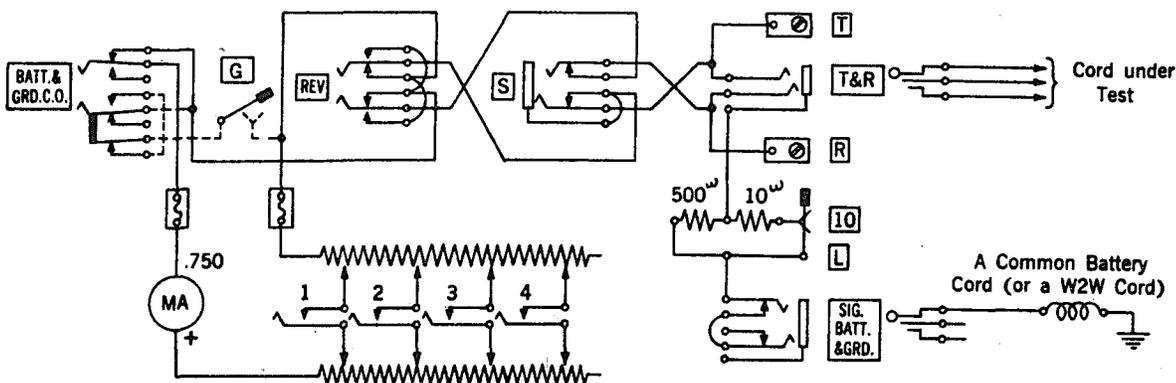

Fig. 1 - Manual Test
3.05 Connect ground to the tip of the test set SIGNAL BAT & GRD jack as follows: If the circuits being tested are common battery cords, insert the plug of one into the test set jack. If universal cords are being tested, use the W2W cord and connect the white (tip) conductor to ground by means of the No. 365 tool. See Fig. 1.